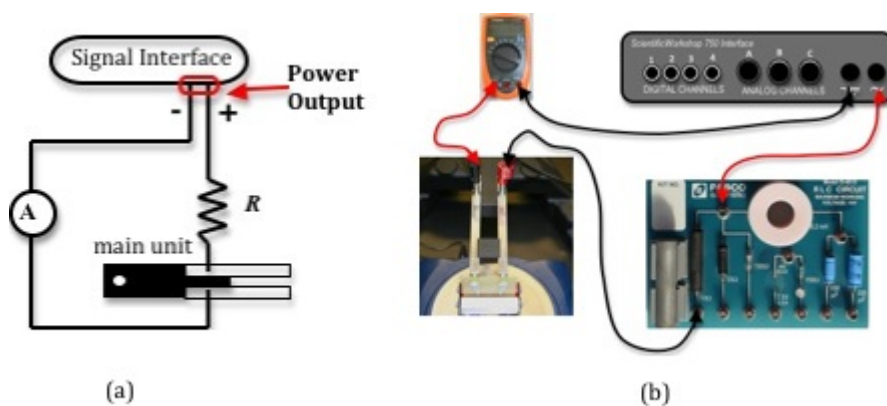

Figure 7: Circuit diagram
- Then connect the second terminal of the ammeter back to the negative terminal of the power output. This will complete your circuit. Your circuit should now look like Fig. 7.